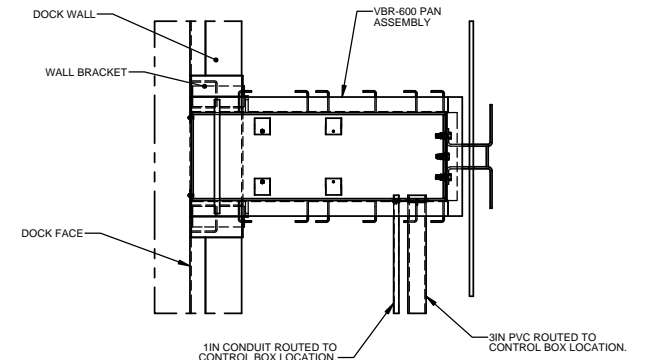

FIGURE 6
- IF VBR-600 POWER UNIT WILL NOT BE MOUNTED IN LEVELER PIT, ROUTE 3" DIA PVC FROM VBR-600 PIT TERMINATING AT POWER UNIT MOUNTING LOCATION. ROUTE 1" DIA CONDUIT FROM VBR-600 PIT TERMINATING AT CONTROL BOX FURNISHED BY RITE-HITE. CONTROL WIRES WILL ROUTE THROUGH 1" CONDUIT AND HYDRAULIC HOSES WILL ROUTE THROUGH 3" CONDUIT (SEE SHEET 2, FIGURE 6).